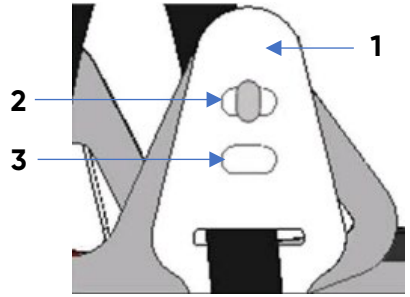

Fig. 2
The hard hat has two adjustment positions for the wearing height (Fig.2). After putting the helmet on the head, make sure that the cradle is properly adjusted to the height of the head. As standard, the attachment of the headband (1) is mounted in the low position (2). To change the wearing height, attach the attachment of the headband to the high position (3).